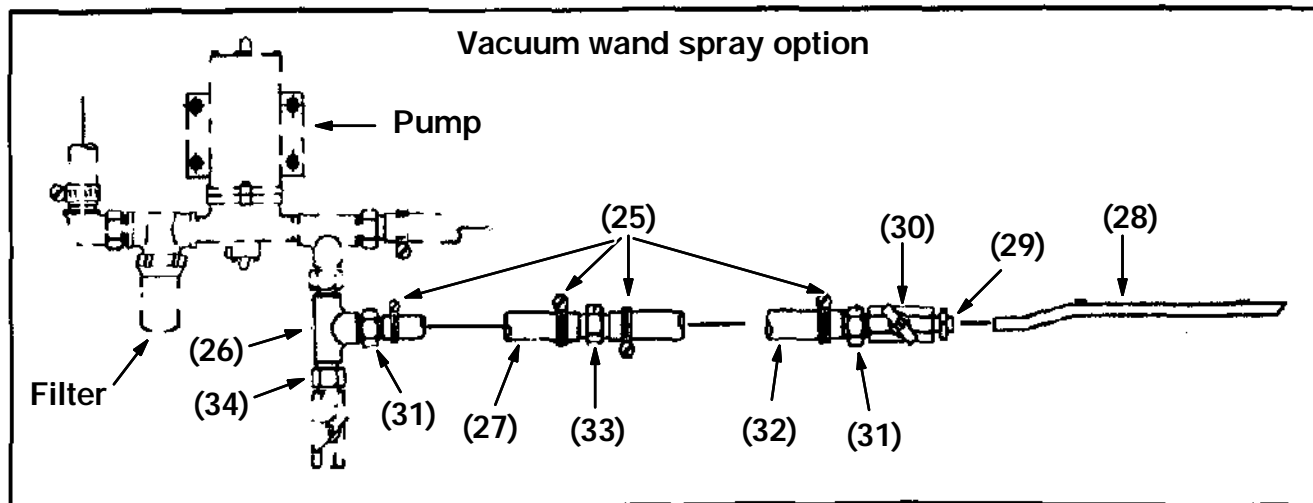

FIG. 5 - Vacuum Wand Spray Option
12. Locate the **water spray group** pump and filter under the cab floor, in the front right corner of the machine. Remove the water hose and 90° plastic fitting from the bottom of the filter. Install the plastic tee fitting (26) and hose nipple (31) provided in this kit to the bottom of the filter assembly. Reinstall the 90° plastic fitting and hose, that were removed earlier, to the bottom of the new fitting. Attach the new water hose (32) to the new plastic nipple (31). (Refer to Fig. 5)